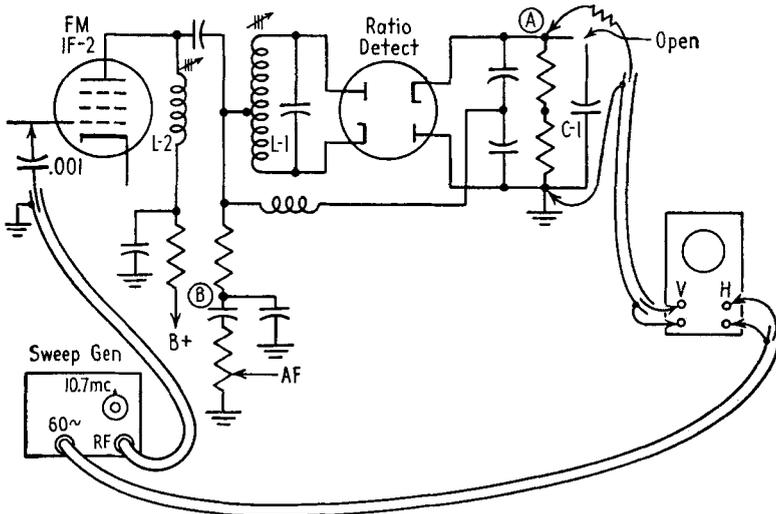

FIG. 26-26. Visual alignment of the ratio detector.
**Ratio detector type receiver: IF alignment.** The visual alignment of the IF and detector section of a ratio detector type of F-M receiver is similar to the procedure described above. The difference lies primarily in the points to which we connect the oscilloscope. Refer to Fig. 26-26.